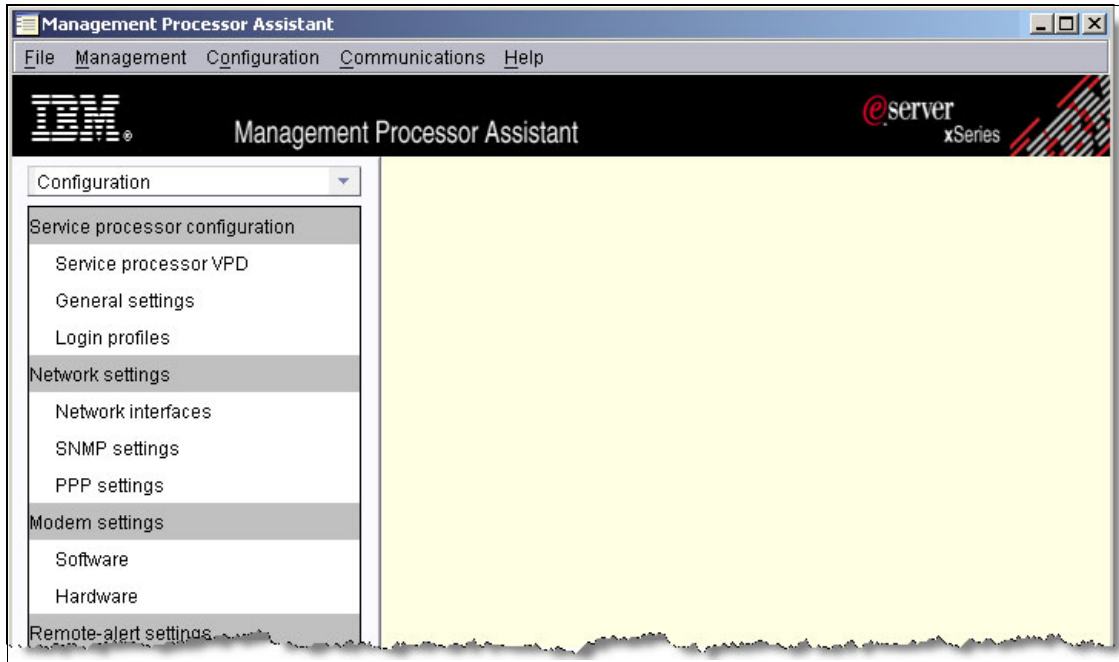

Figure 7-8 IBM Director MPA configuration view
3. Select **Configuration** subtask and drag and drop it on to the target server. Figure 7-8 on page 251 opens. If you are not able to connect to the service processor you will see a pop-up message. Verify that the service processor driver is installed correctly.